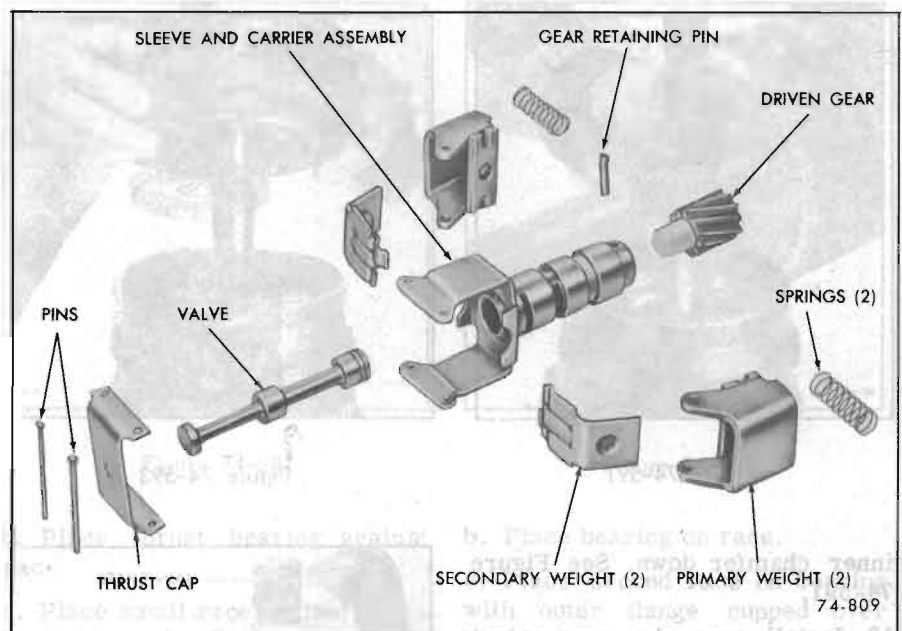

Figure 74-600
a. Disassembly (See Figure 74-600)
d. Assembly (See Figure 74-600)